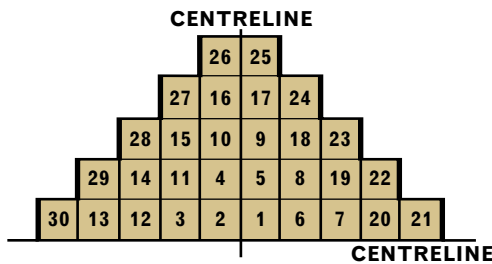

Figure 1 Pyramid layout
**Construction of a pyramid should always start at the centre of the baseline, working in the same sequence as shown above (Figure 1).**